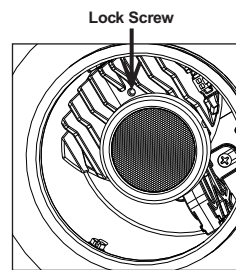

Figure 12
Step 3. Use 1/16" allen wrench to lock fixture adjustment if desired (Fig. 12).